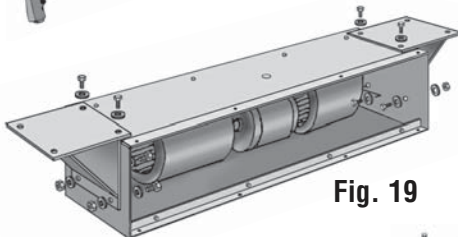

Fig. 19
4. Using bolts and washers on the top and bolts, washers and nuts on the side panels, secure both brackets to the unit. (See Fig. 19)